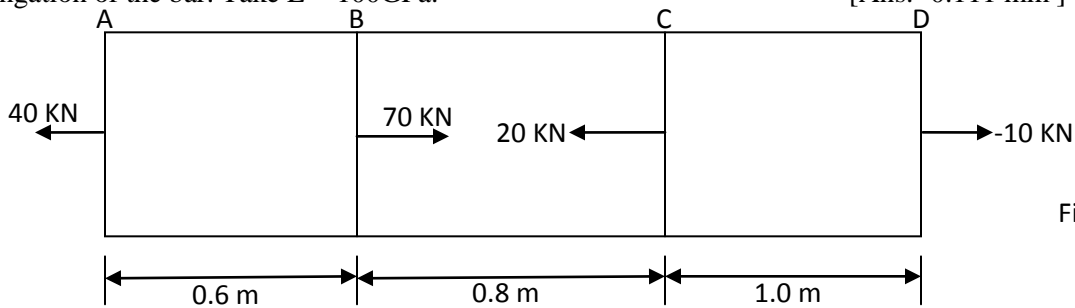

Fig 5.123
x) A brass bar, having cross-section area of 900 mm2 to axial force as shown in Fig 5.123. Find the total elongation of the bar. Take  $E = 100 \text{ GPa}$ . [Ans. -0.111 mm ]